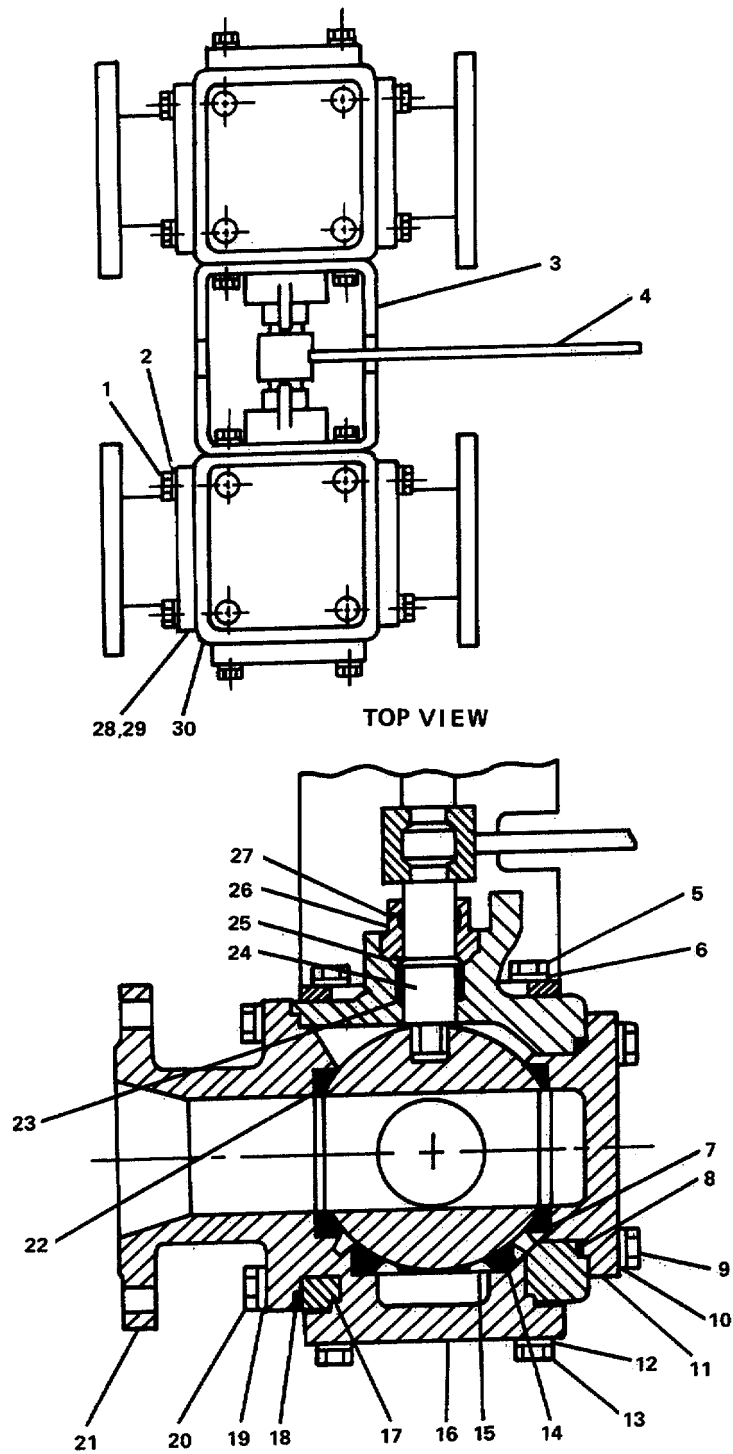

FIGURE 3-196. 4-Inch Three-Way Ball Valve. Repair.
**3-208. Repair 4-Inch Three-Way Ball Valve. (Figure 3-196)**